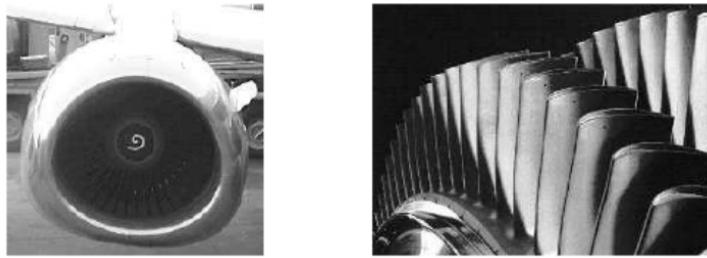

Figure 2: Turbine blades of a jet engine
3. The displacement field in a turbine blade of a jet engine shown in Fig. 2 can be given in a Cartesian reference frame by  $\mathbf{u} = u_1 \mathbf{e}_1 + u_2 \mathbf{e}_2 + u_3 \mathbf{e}_3$ , where